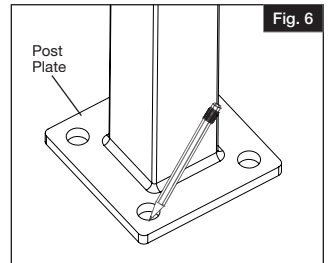

Fig. 6
- Mark holes through the mounting plates of posts (upper and lower) onto the mounting surface (Fig. 6) and follow masonry anchor manufacturer's installation instructions for proper drilling technique.
- Determine center of each post. Do this by marking holes through the mounting plates of posts (upper and lower) onto the mounting surface (Fig. 6).